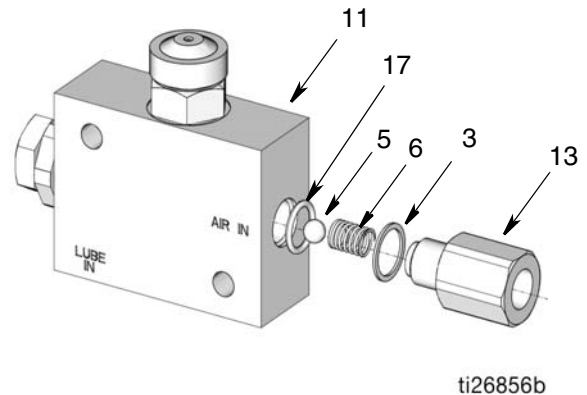

FIG. 5
2. Remove the air inlet assembly (3, 5, 6, 13, 17) (FIG. 5).